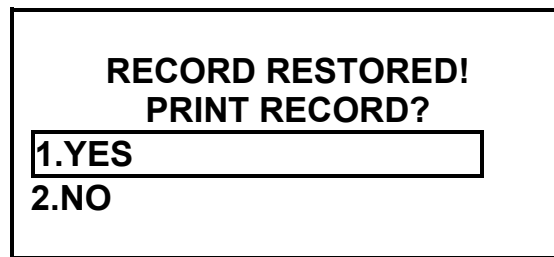

Figure 51.0 Record Restored Menu
- b. **Origin:** Selecting menu option 1 (“YES”) from the “Record Restored Menu” (Figure 51.0).